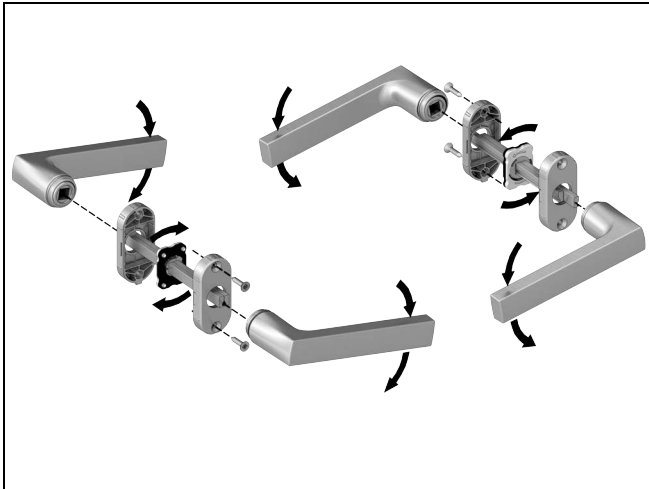

Figure 2
1. Fit the lever assist spring into the interior handle mounting base. Note the arrows must be oriented in the same direction as your handle will rotate to unlatch the door. For fixed handles, fit the fixing plate to the interior handle mounting base. See Figure 2.